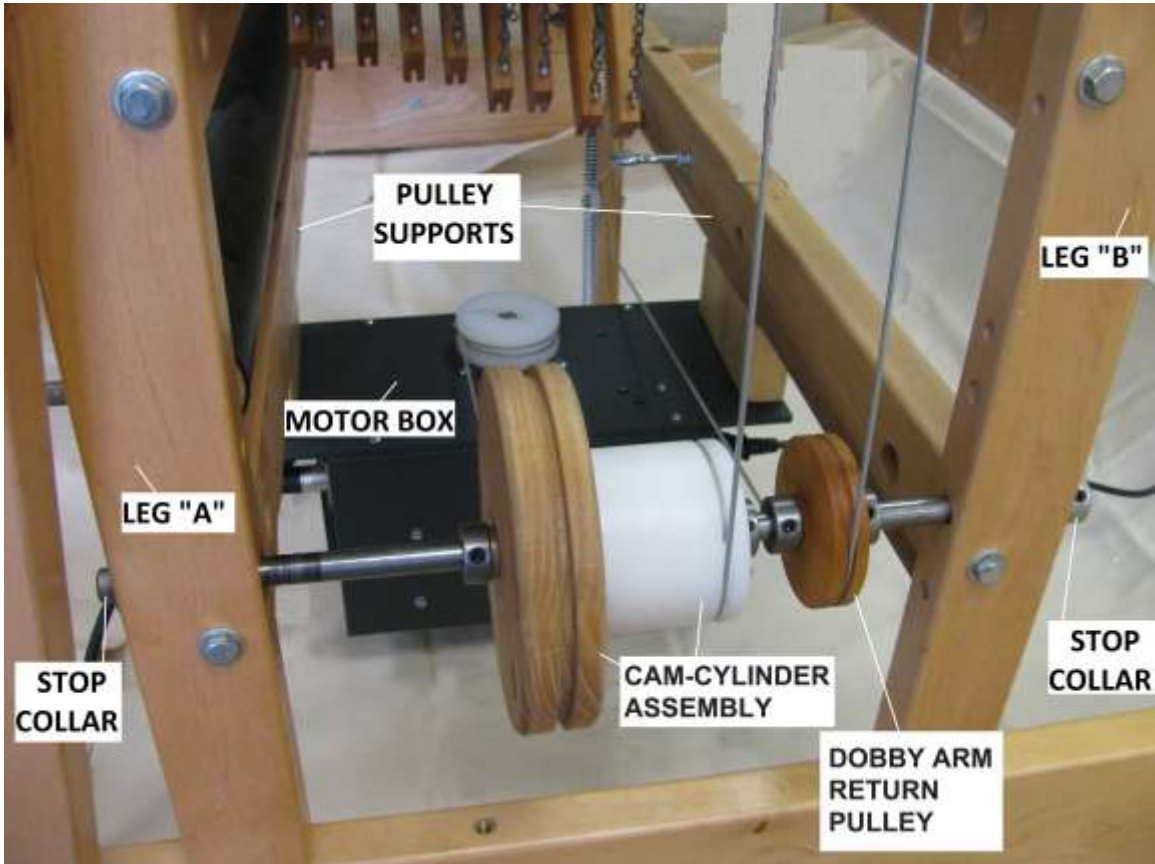

Fig. 3 – Cam and Pulleys (right side view)
3) *Note: Before proceeding with step 3, verify that your Cam-Cylinder assembly axle is held in place with stop collars on the outside of the vertical sideframe castle pieces (legs A & B in Figure 3). Otherwise, proceed to **Installing the Cam-Cylinder** before returning to this step in the procedure.*
*Note: If your Cam-Cylinder assembly axle is not held in place with stop collars on the outside of the vertical sideframe castle pieces (LEGS A & B in Figure 3), you must remove either Leg A or Leg B to proceed. Follow steps 2 & 3 omitting the outside stop collars in step 3.*
- 2) Re-insert the Axle through Leg 'A' so the end extends a few inches into the middle space between Legs 'A&B'. As seen in Fig. 3, and in this order, slide the following components onto the axle:
**5)** The Dobby Arm to Spring Lever Cable is attached to the Dobby Arm in the same manner as the Dobby Arm to Cam-Cylinder Cable. Unwrap the Dobby Arm to Spring Lever Cable. Insert the crimped end of the cable in the small hole on the top of the Dobby Arm and attach the plastic cable retainer as discussed in step 4. Route the cable over the small pulley located on the Dobby Back. The cable must be in the Pulley slot under the Retainer. Now, route the cable down the right side of the Dobby Back to the Dobby Arm Return Pulley as seen in Figure 3. Guide the cable around the Return Pulley, then towards the center of the loom.